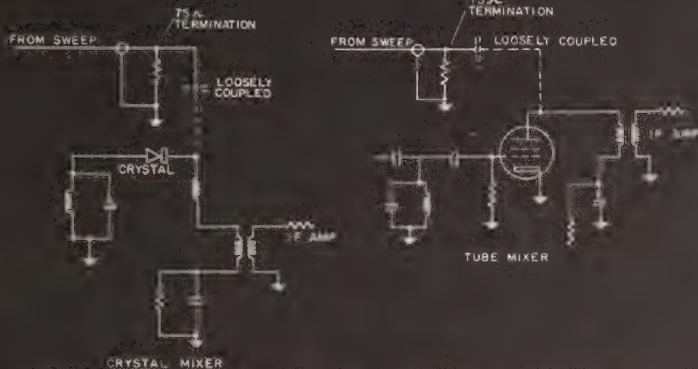

FIGURE 24
- The output of the sweep should be introduced into the mixer circuit in some way that will give reasonably uniform response without changing the output impedance of the mixer. One way of doing this is shown in Figure 24. The output of the sweep is connected to a terminating resistor near the output terminal of the mixer, and is coupled to the mixer output loosely enough to avoid changing the tuning of the mixer output circuit.